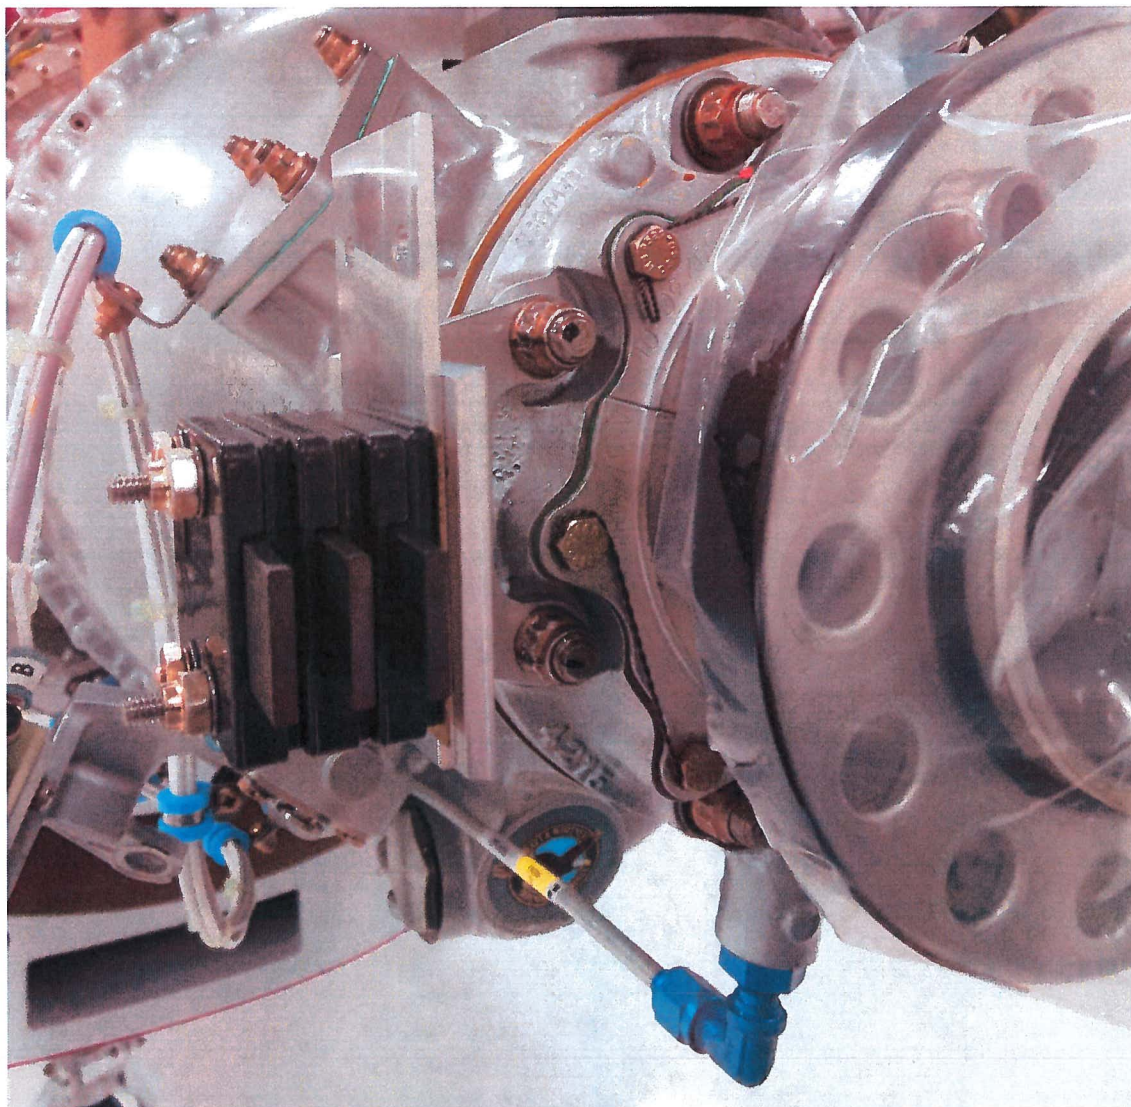

Figure 4
- e) Install 105915 brush block bracket as shown in **Figure 4**. Torque nuts holding the bracket to engine gearbox using standard torque values provided in the Pratt & Whitney Maintenance Manual.